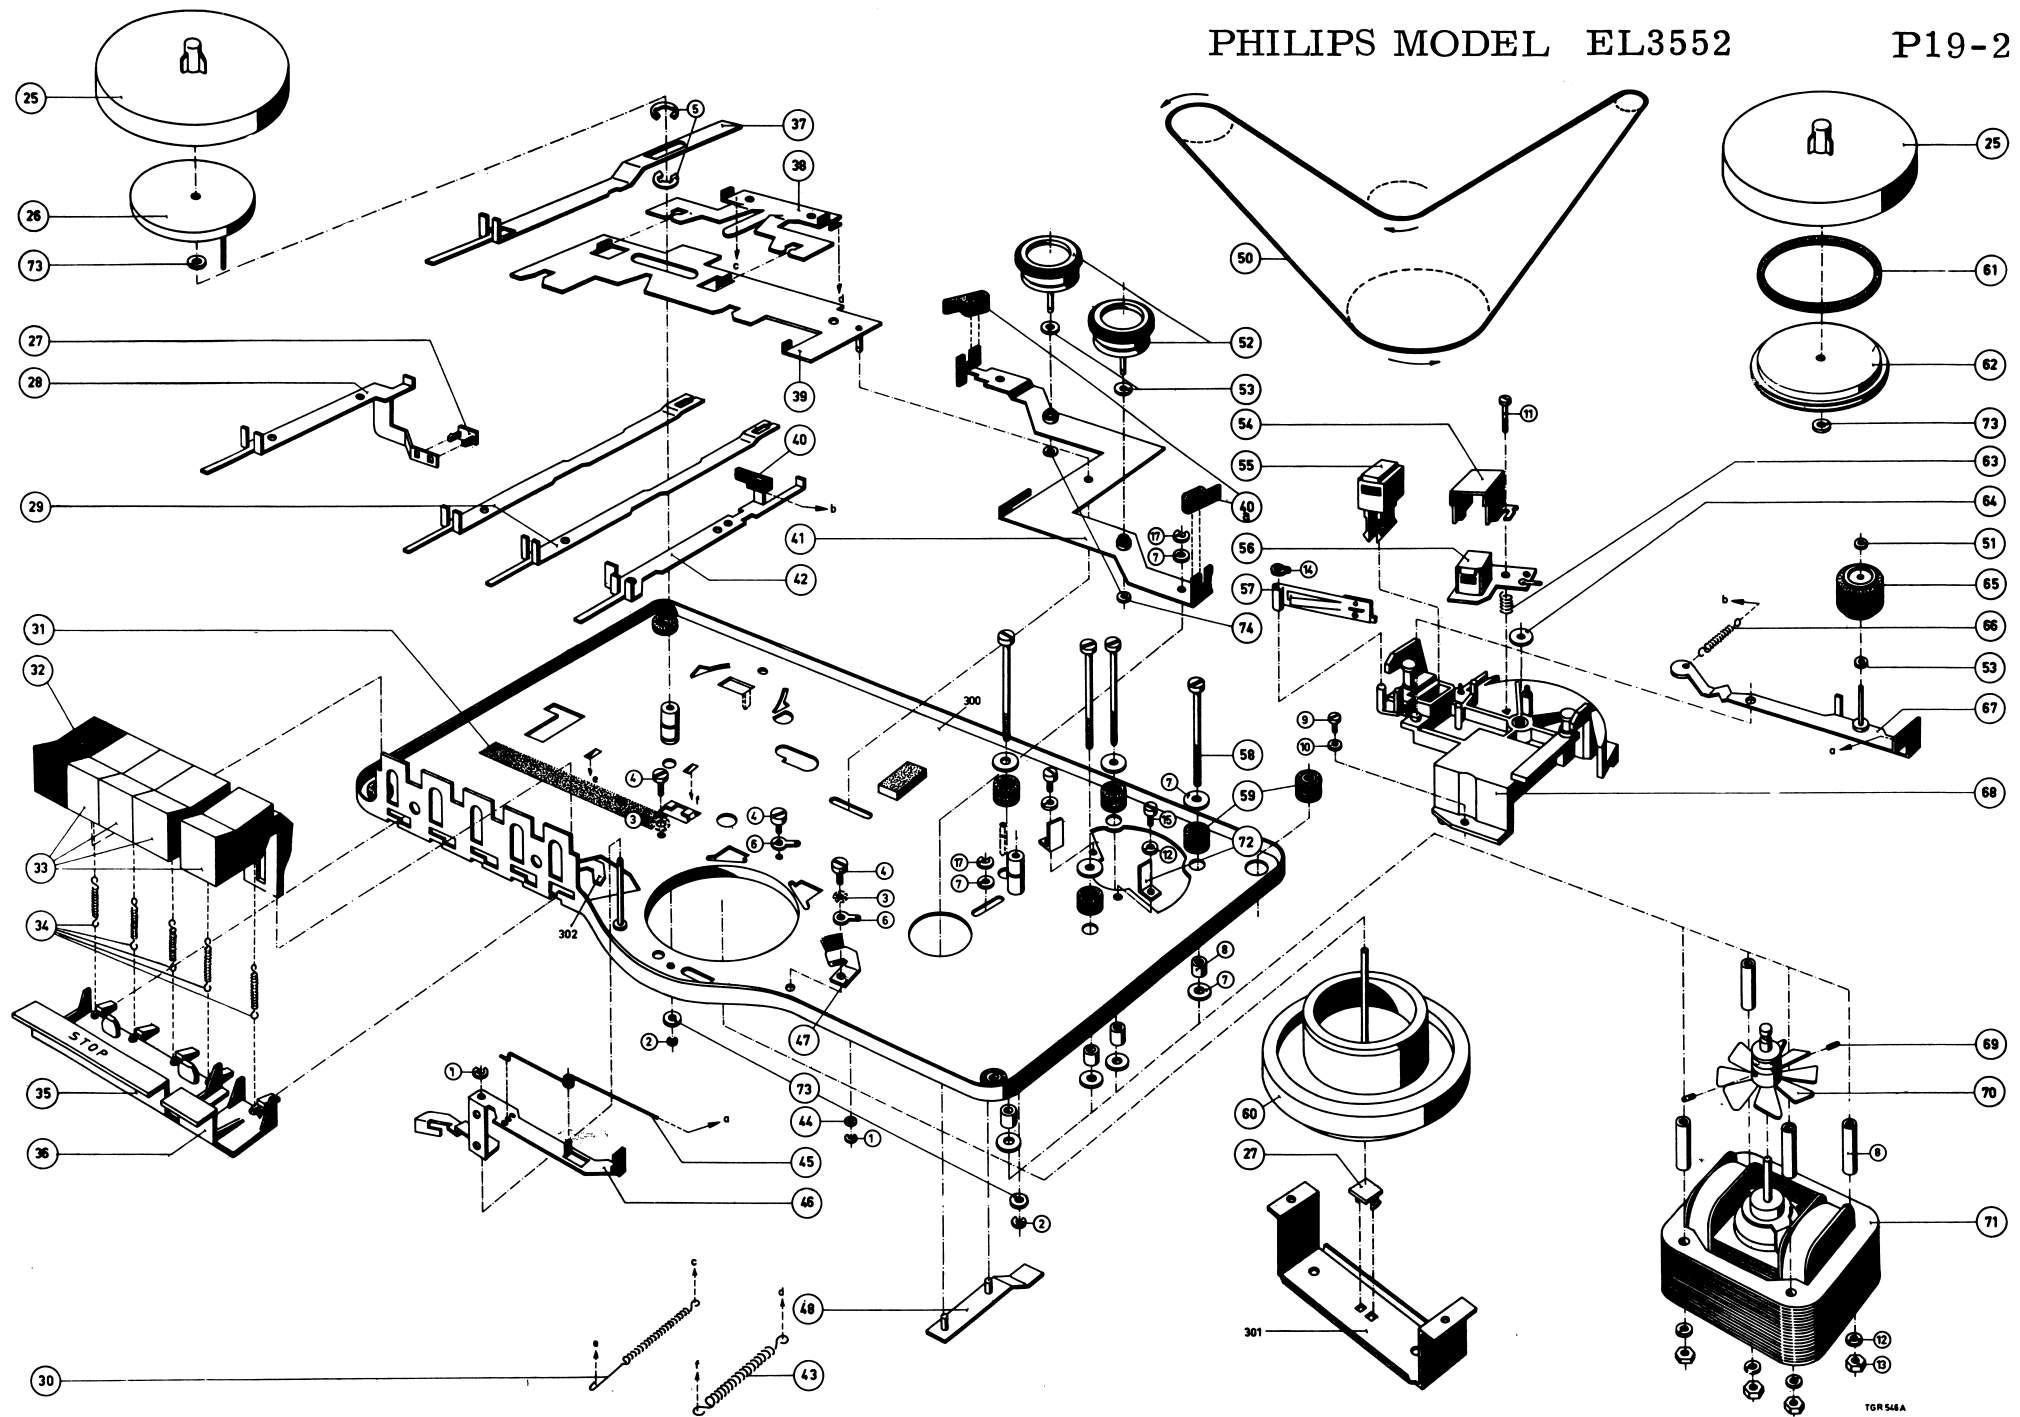
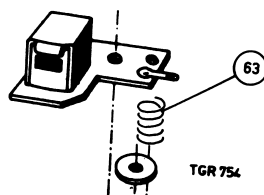

Fig. 10
Fig. 2
In Fig. 10 the spring (item 63) is drawn below the screw, item 11. However, the spring (item 63) should be fitted as shown in Fig. 2.
- In positions "forward winding", "rewinding" and "playback" tag B on the Z bracket should have a clearance of at least 1 mm with respect to the stop cam on operating plate, item 74. This can be adjusted by bending tag B as indicated in Fig. 2.